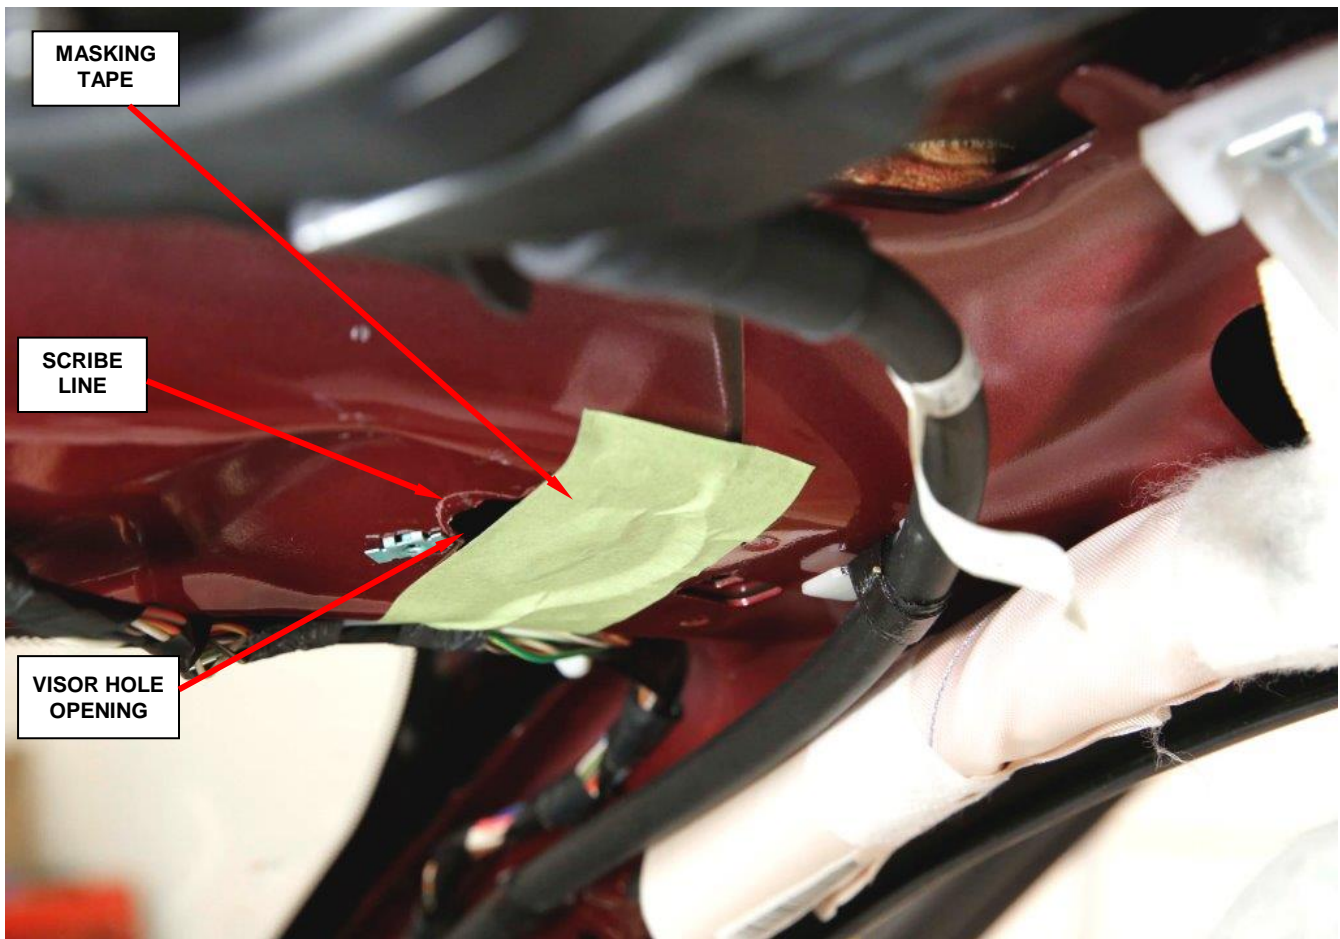

Figure 13 – Apply Masking Tape to Cover Majority of the Visor Hole Opening (right side shown)
33. Remove and save the right template. Verify that the scribe mark is visible (Figure 13).
34. Apply masking tape (or equivalent) over the right and left visor hole opening in the sheet metal panel as shown in Figure 13.